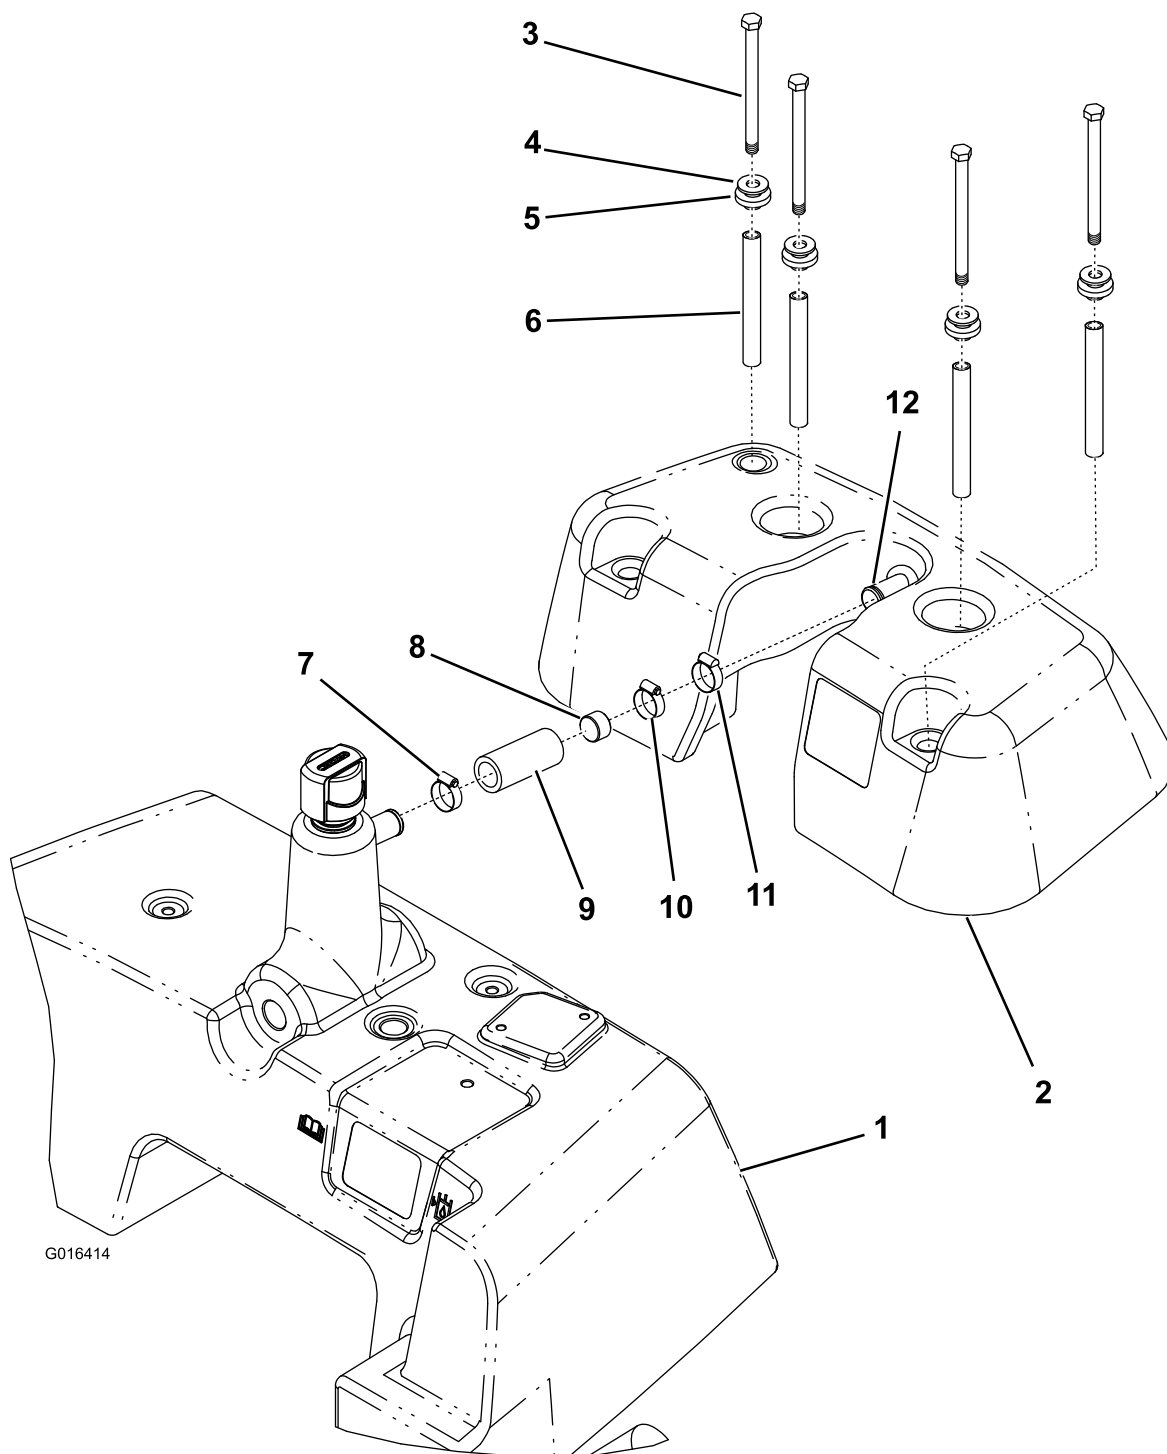

Figure 1
2. Remove the 4 bolts, 4 flat washers, 4 rubber washers, and 4 spacers that secure the cover to the hydraulic oil tank (Figure 1).
3. Loosen the hose clamp that is closest to the cover (Figure 1).
5. Insert the plug into the open end of the hose until the plug stops in the hose against the neck that protrudes from the hydraulic oil tank (Figure 1).